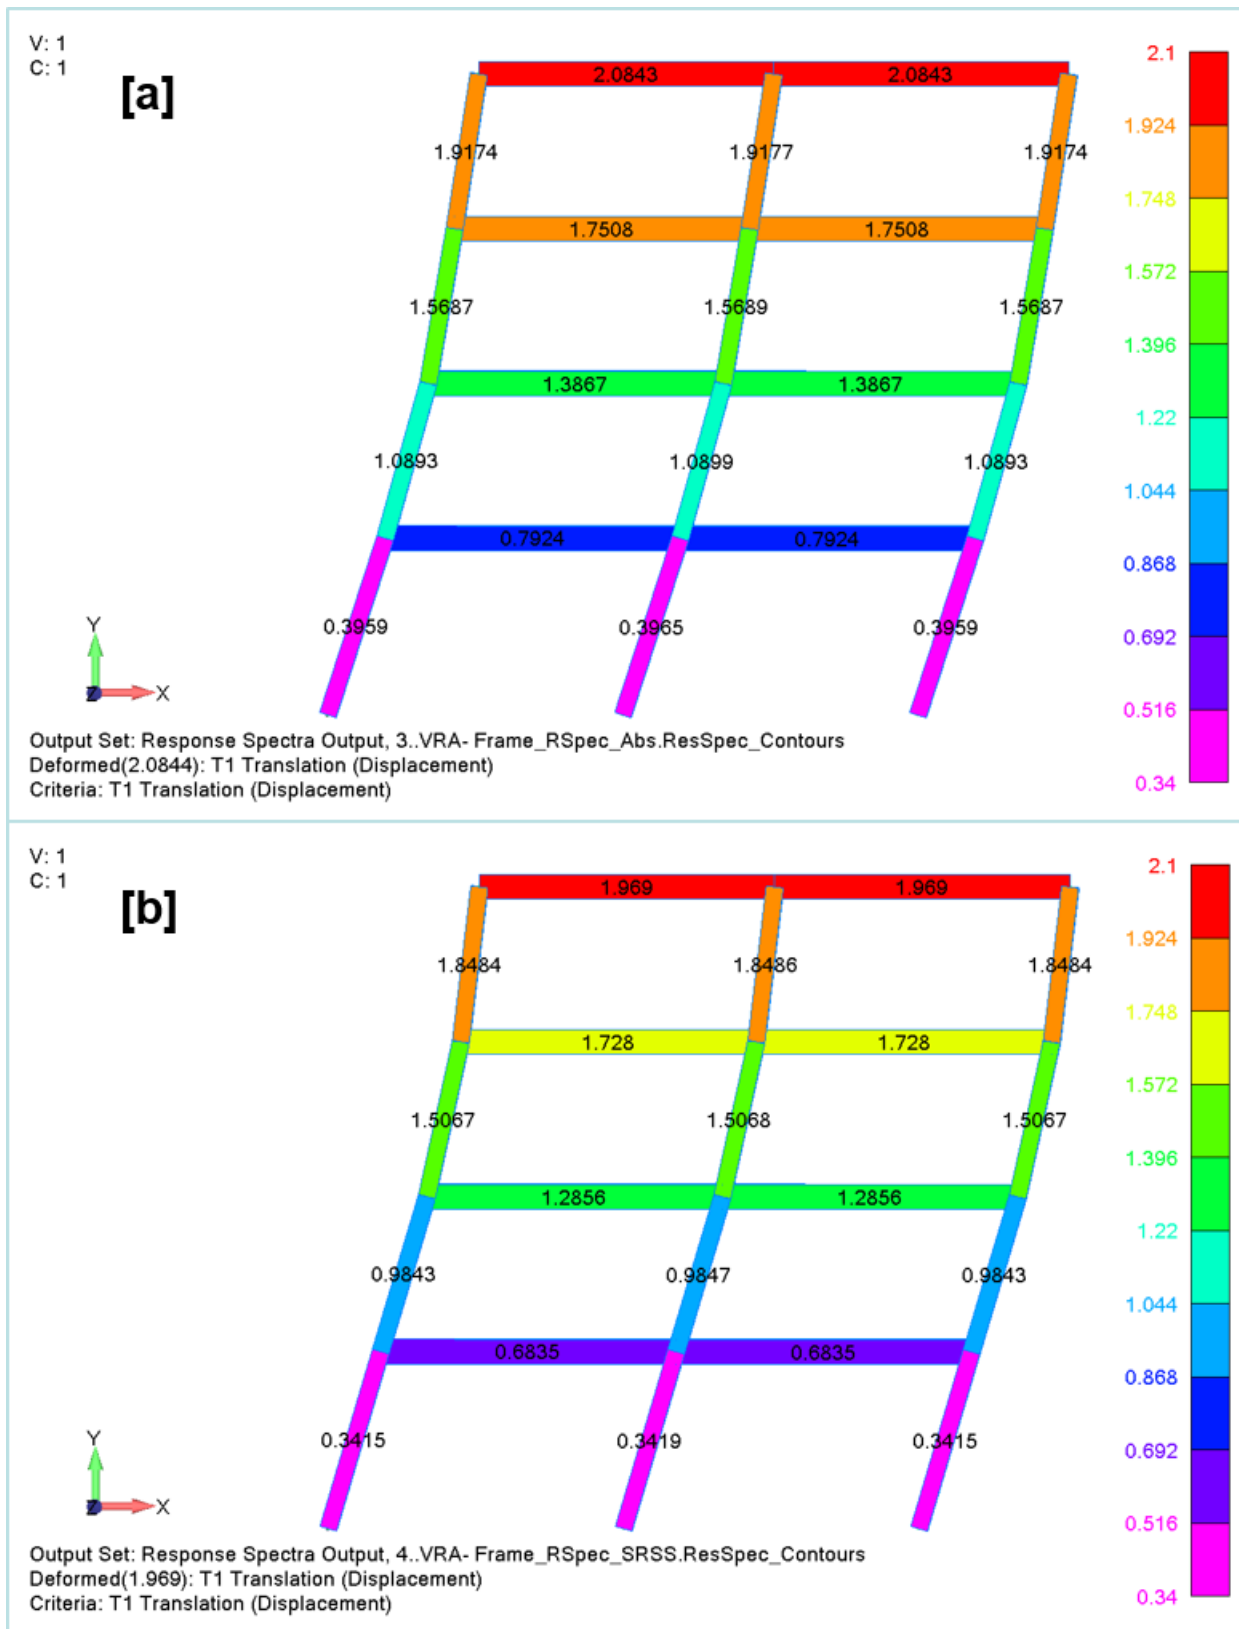
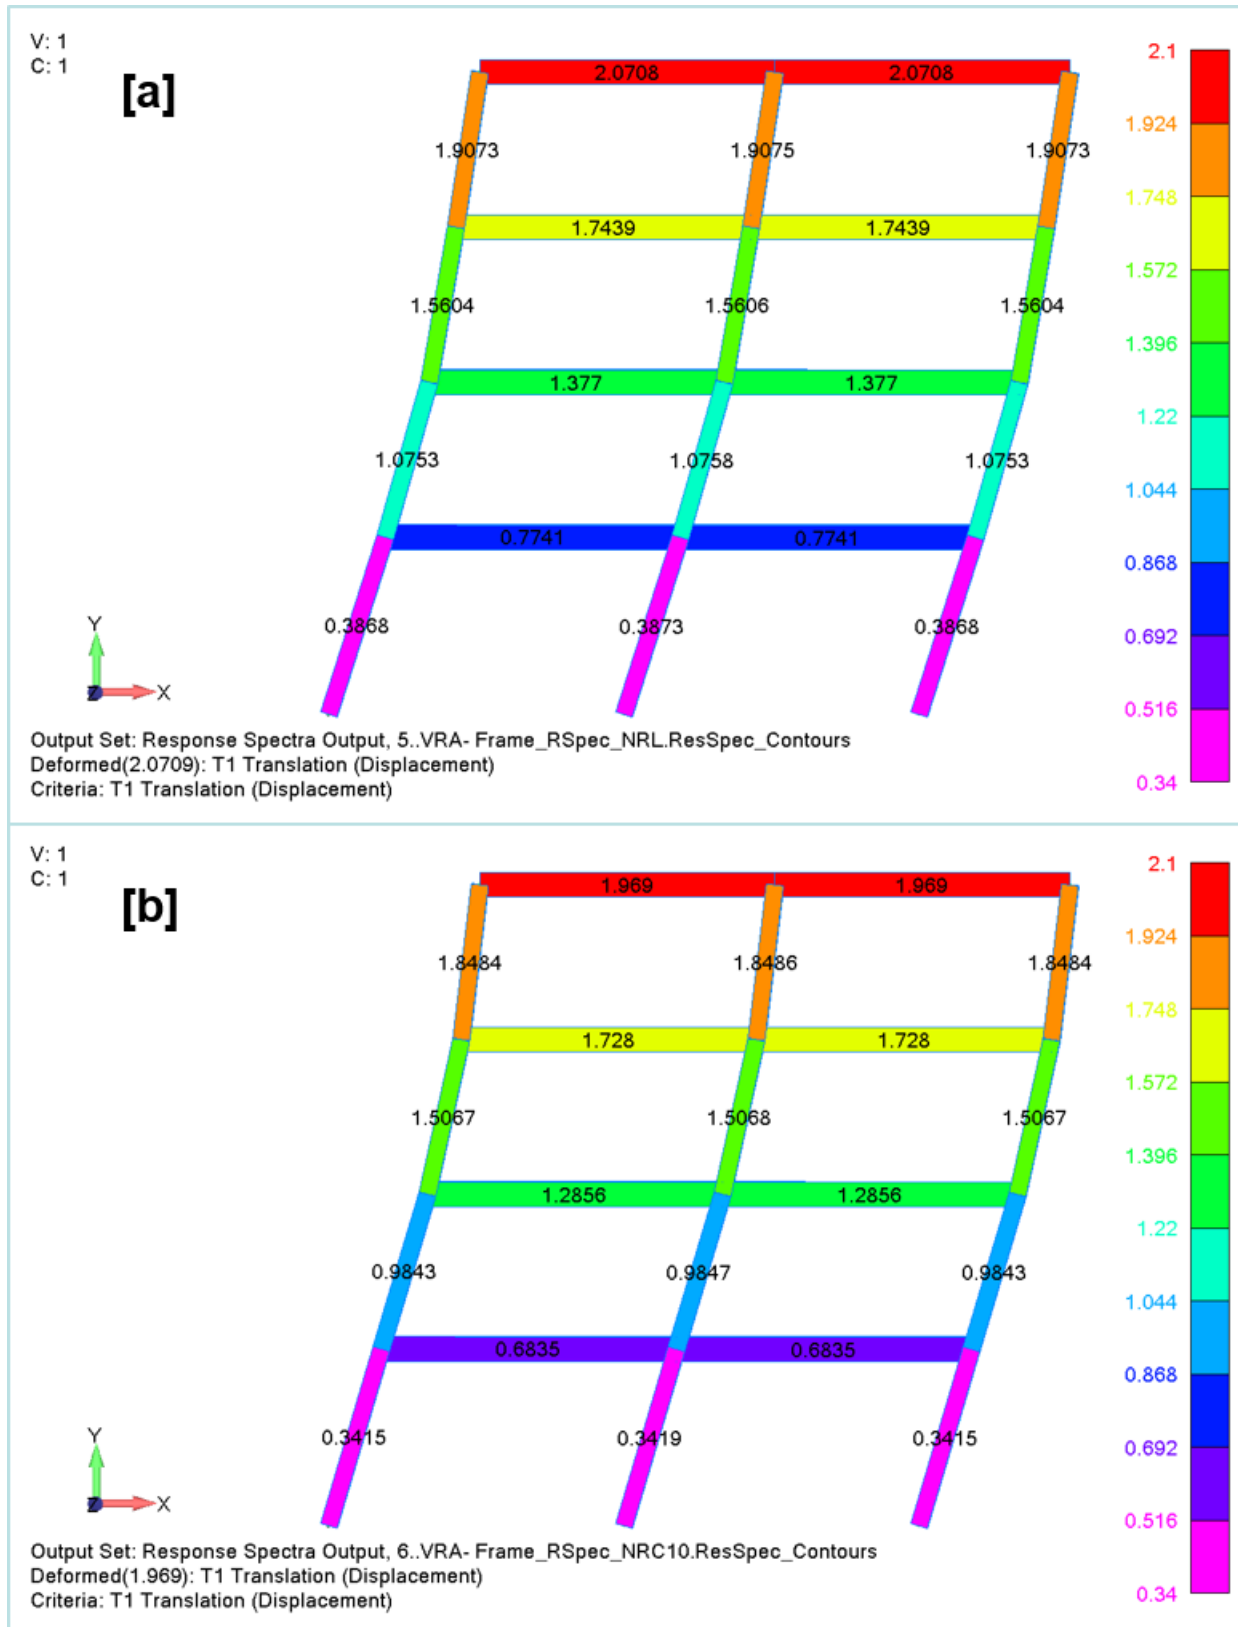
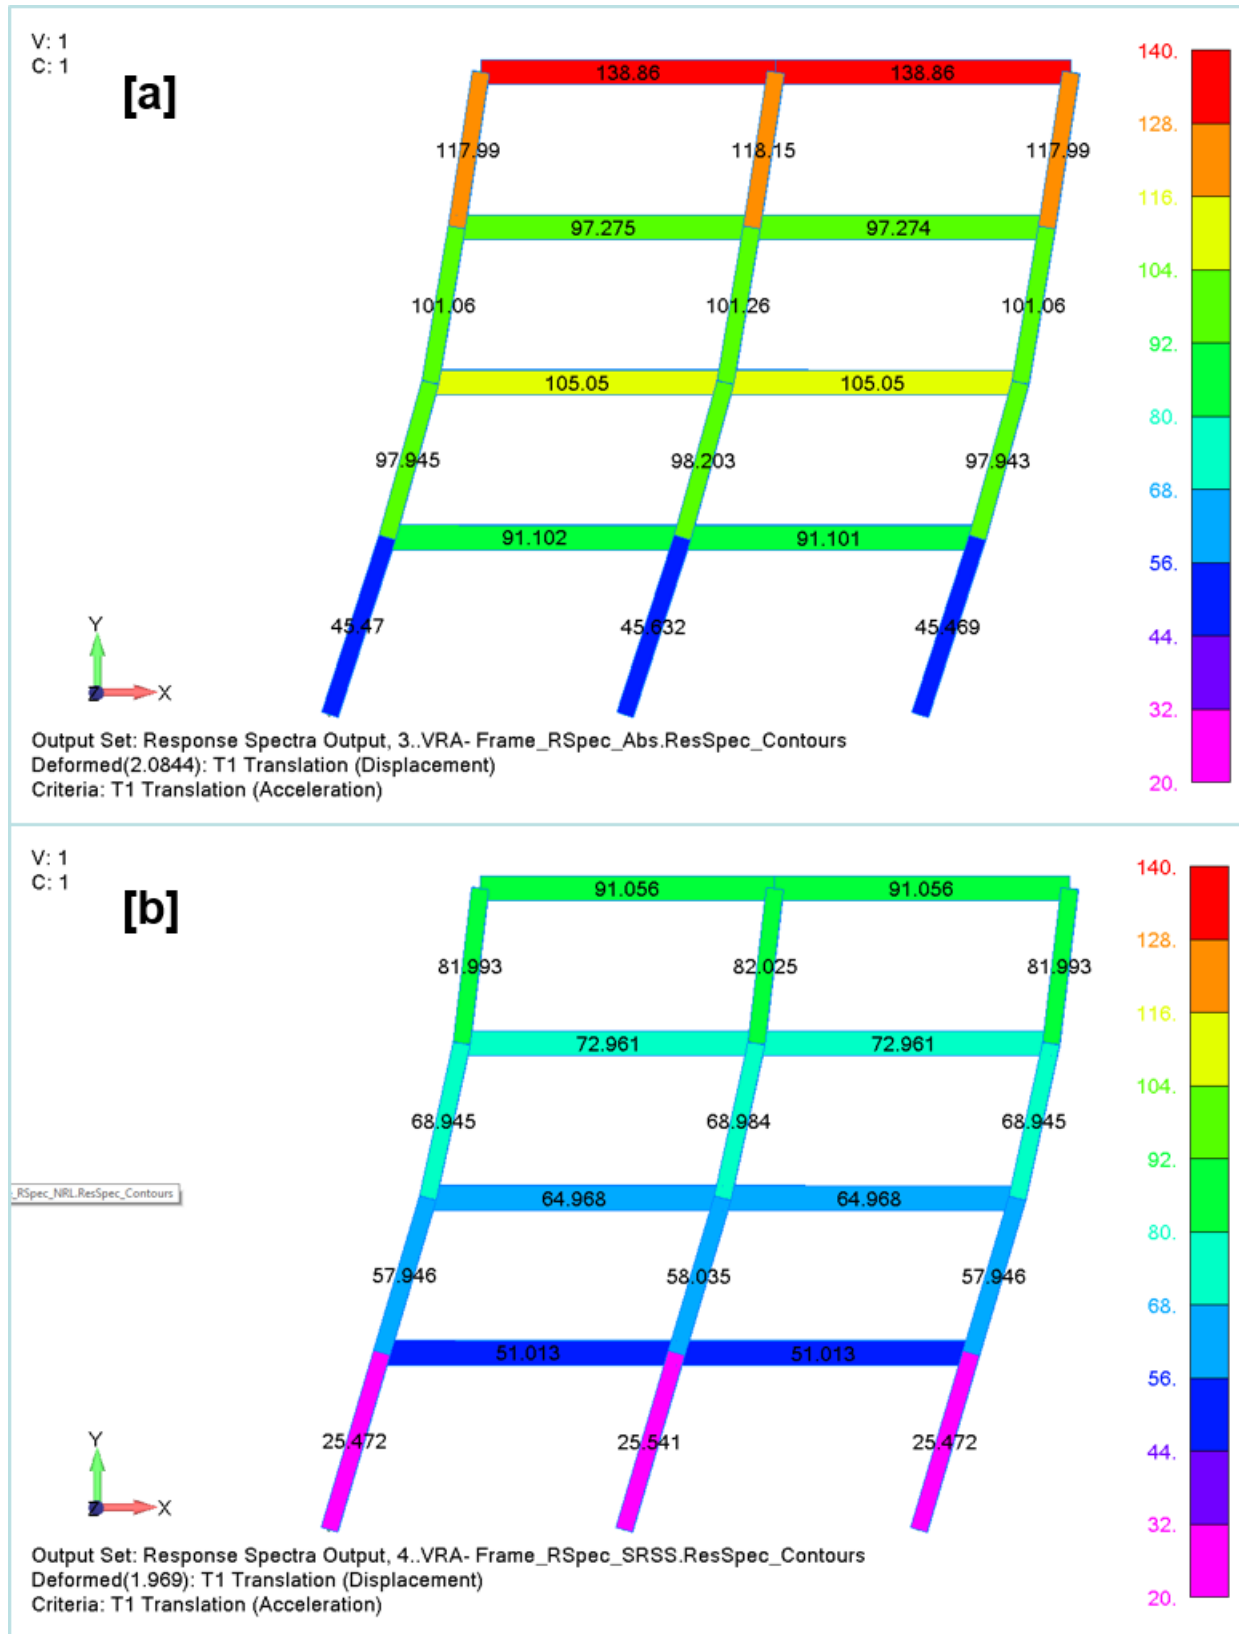
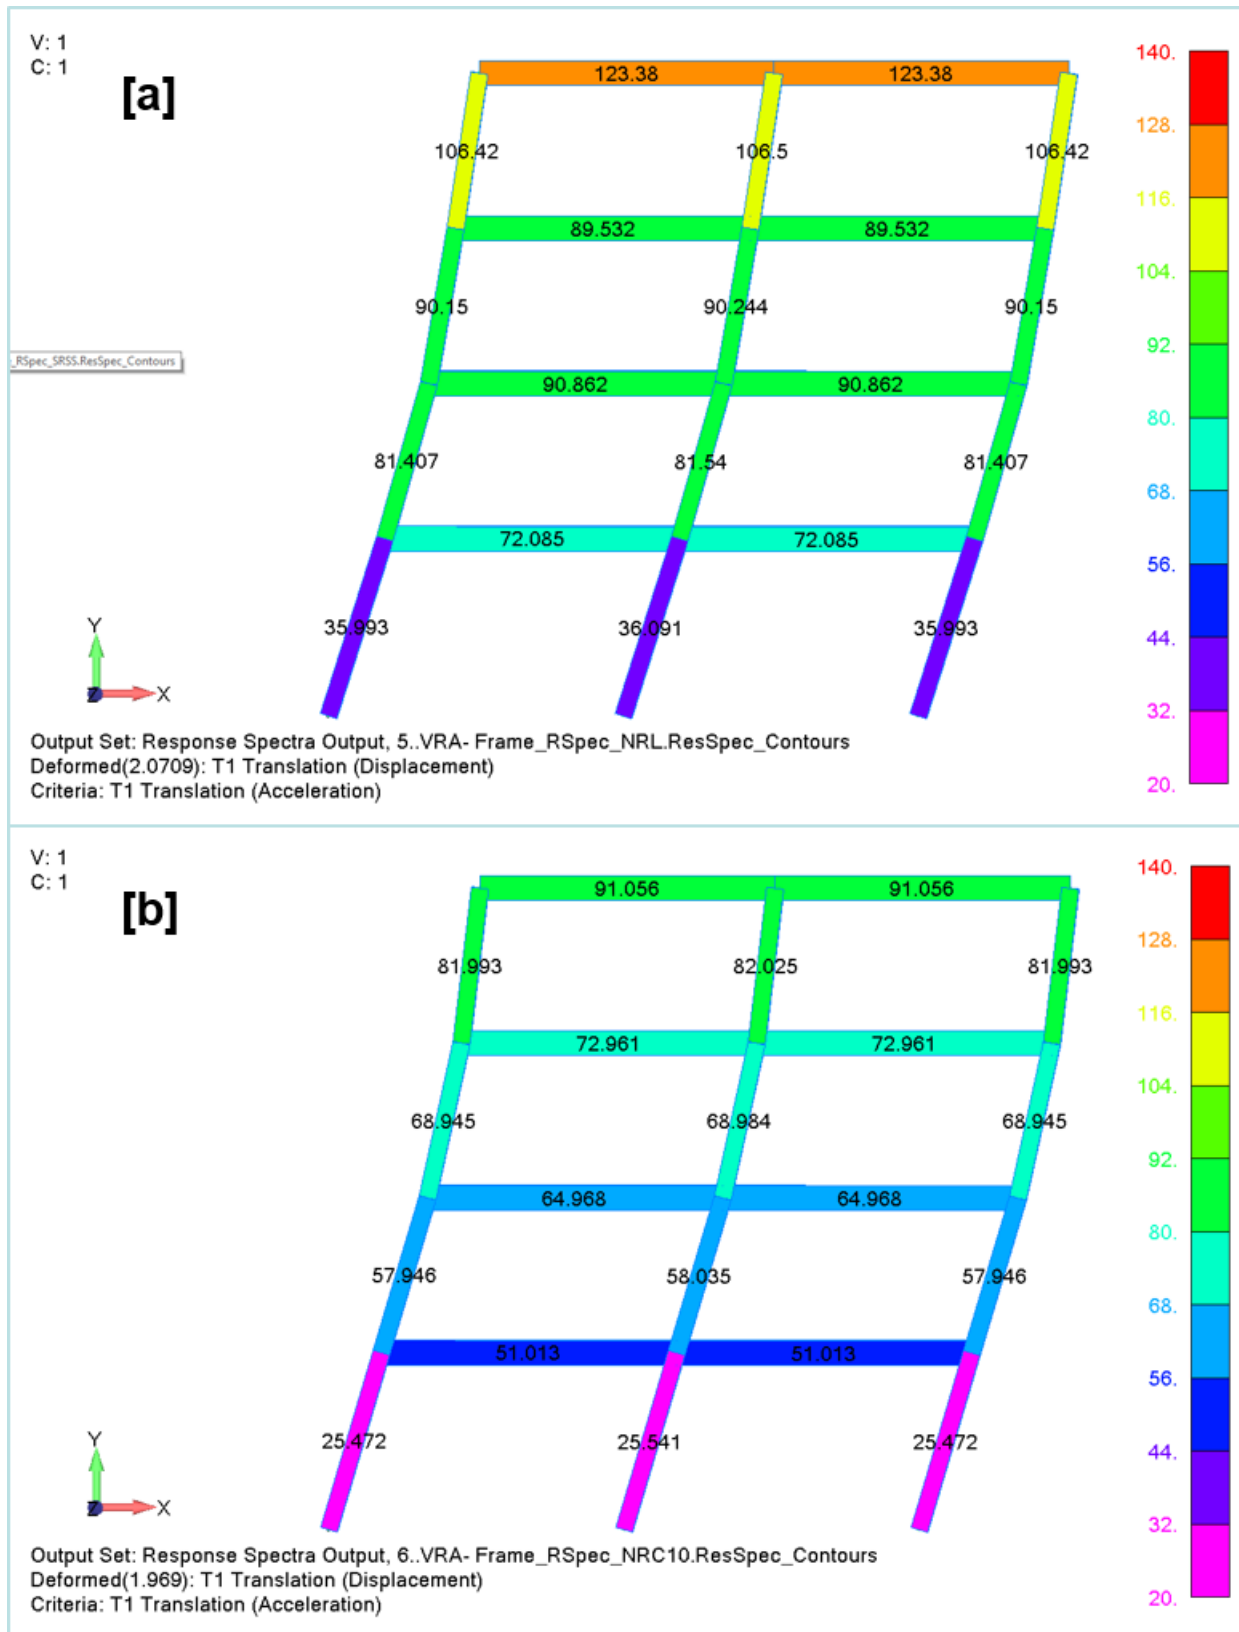

Figure 4-88. Displacements for [a] absolute value and [b] SRSS methods.
Figure 4-89. Displacements for [a] NRL and [b] NRC 10% methods.
Figure 4-90. Accelerations for [a] absolute value and [b] SRSS methods.
Figure 4-91. Accelerations for [a] NRL and [b] NRC methods
13. The displacement results are shown in Figure 4-88 and Figure 4-89. For all of the displacement plots, the color bar has been set to 10 intervals with the range from 0.34 to 2.1 inches. The acceleration results are in Figure 4-90 and Figure 4-91. The color bar range in these plots is from 20 to 140 in/s².